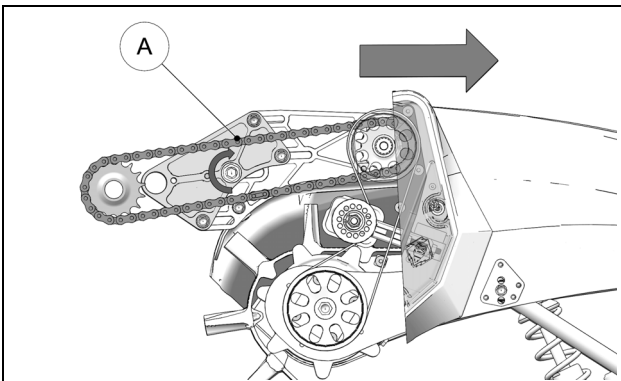

Figure 55
If the chain is adjusted to the highest tension setting (A) and the required 3 - 6 mm amount of play (1/8-1/4 in.) cannot be obtained at mid-point (B) between the sprockets, the chain should be replaced. See Figure 55.